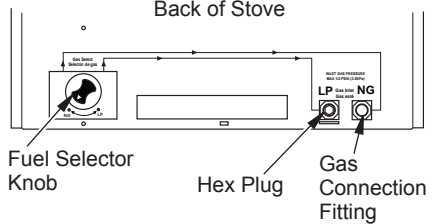

Figure 7 - Settings for Natural Gas Selection
2. For NATURAL GAS, press in knob using a flat screwdriver with a blade with thickness of a quarter and turn knob clockwise until the knob locks into the NG position (see Figure 7). Fuel selection device must be locked in the NG position. Do not operate heater between locked positions!
4. Remove hex plug (with wrench provided) from natural gas inlet of regulator (see Figure 7). Install hex plug into LP inlet of regulator. Install gas line into NG inlet of regulator. Use thread sealant to assure there are no leaks.